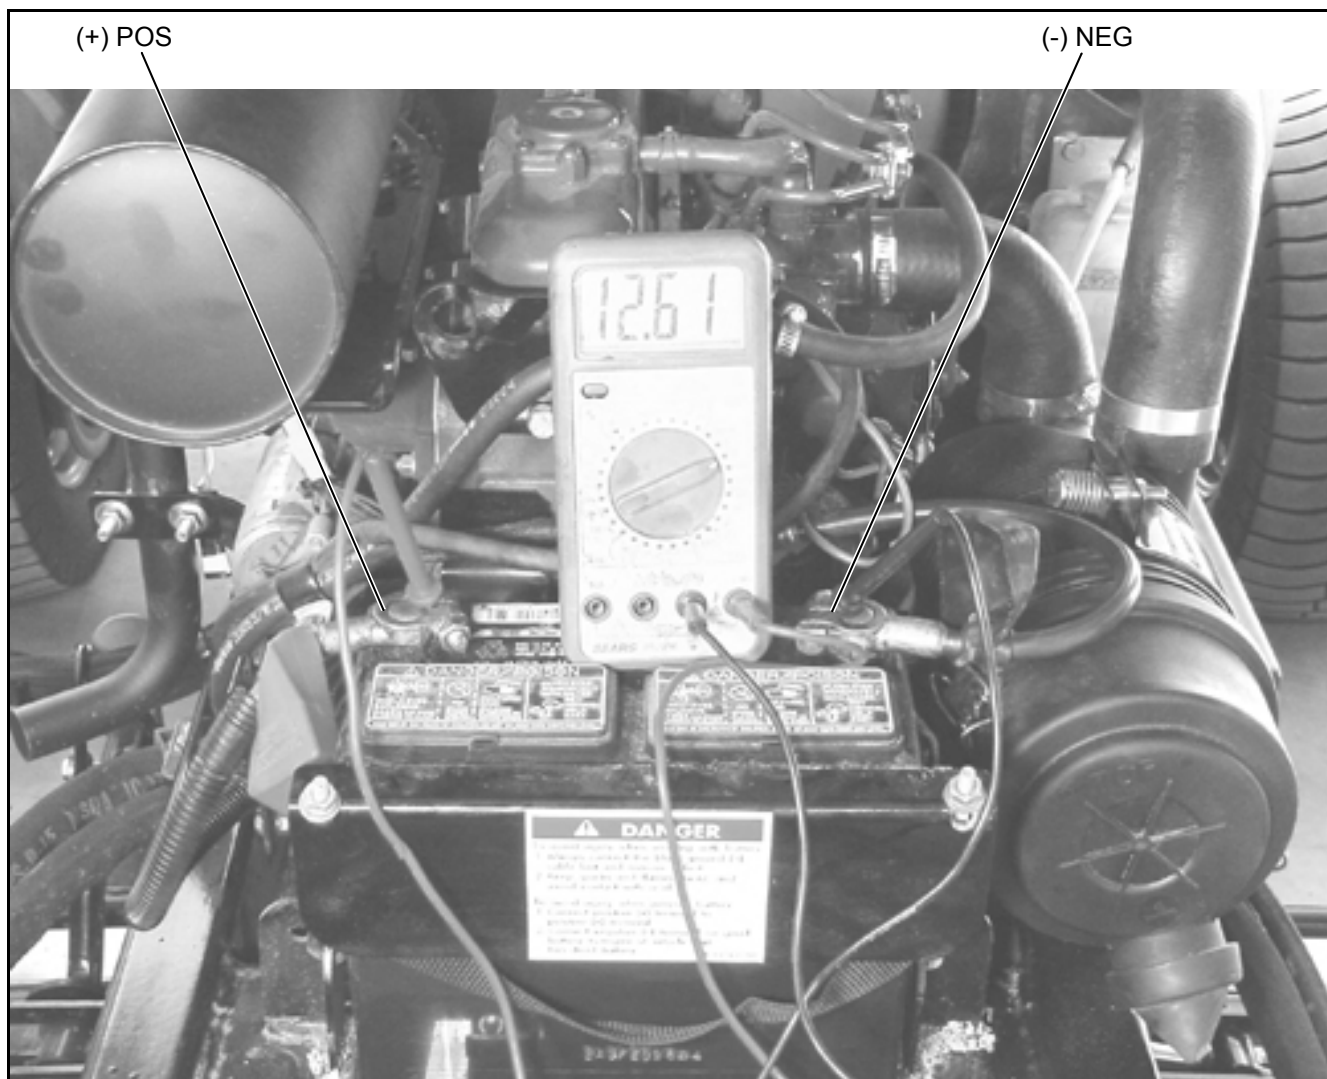

Figure 10D-1. Battery Test
2. Connect multimeter leads to battery terminals, red (+ POS) lead to positive terminal and black (- NEG) lead to negative terminal (Figure 10D-1).